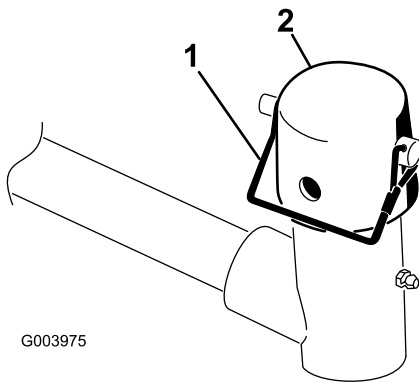

Figure 10
7. Remove the lynch pin and the clevis pin of the pin and lanyard assembly from the lift arm pivot yoke. Then, remove the cap (Figure 10).
11. Secure the cap and the carrier-frame shaft to the lift-arm yoke with the snapper pin (Figure 10).